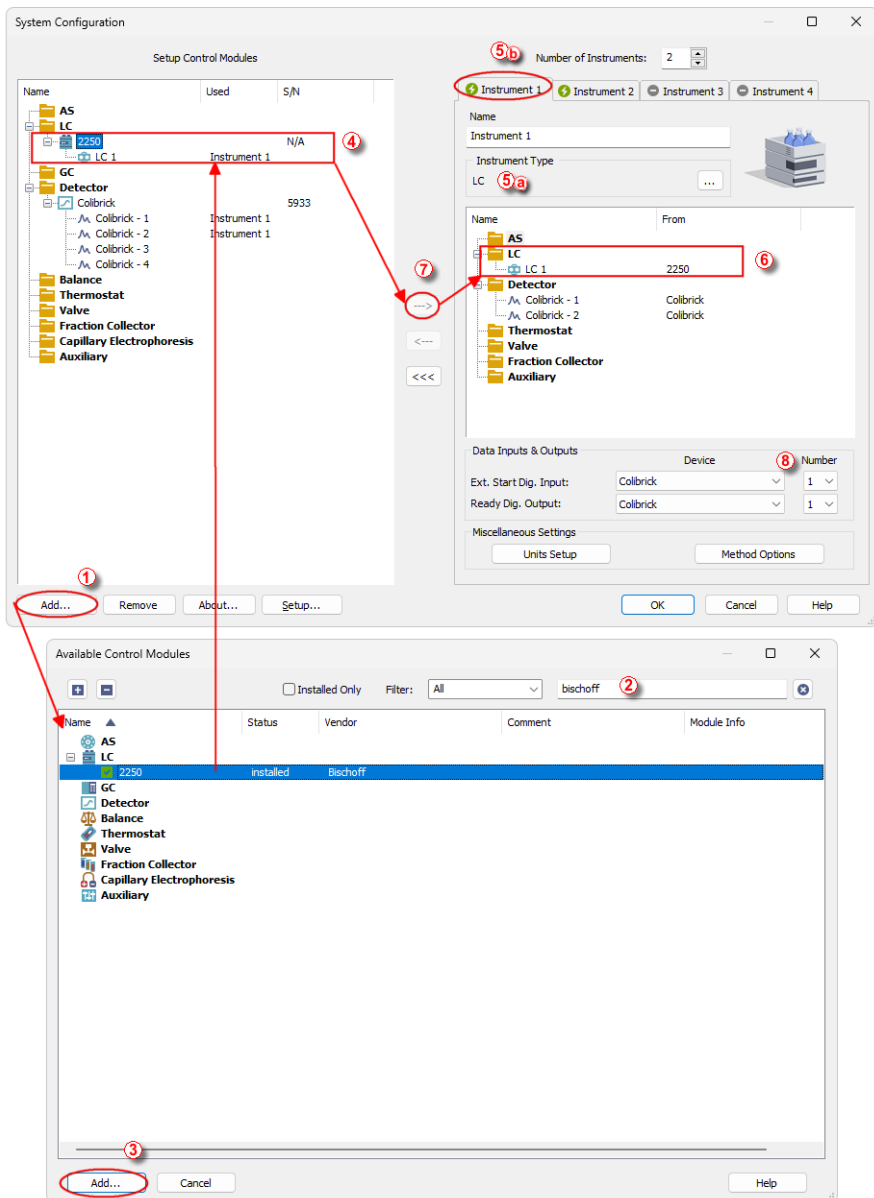

Fig. 3: How to add Bischoff 2250
- Press the *Add* button ① (see **Fig. 3** on pg. 4.) to invoke the *Available Control Modules* dialog.
- You can specify the searching filter ② to simplify the finding of the driver.
- Select the **2250** pump and press the *Add* ③ button.